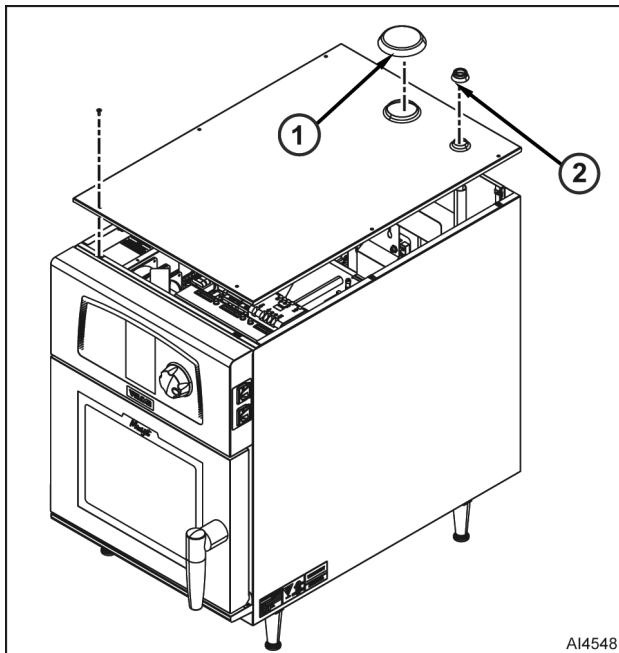

Fig. 1
1. Unscrew and remove vent cover (1, Fig. 1).
2. Remove rubber boot (2, Fig. 1) from vent tube.